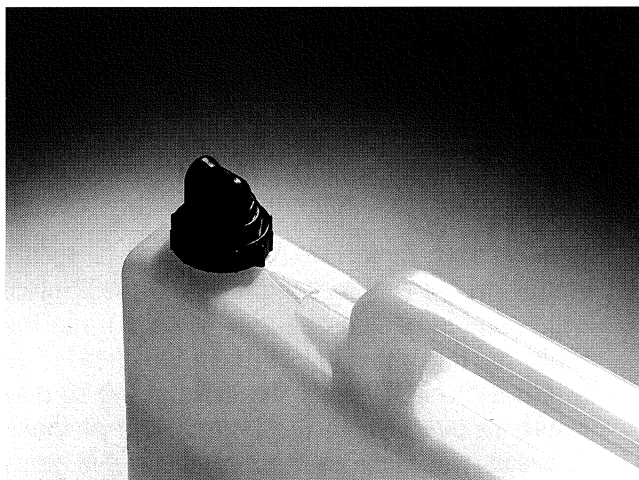

Figure 2-6
4. Label each bottle with the appropriate reagent and concentration that will be used at each station. (Later, these will be programmed into the software during the customization of the instrument, as instructed in Section 3.) Remove the cap at the opposite end of the bottle from the nozzle and fill each bottle to the proper graduation mark (to the appropriate "P" marking for Stations 1-10 and to the appropriate "C" marking for Stations 15-16) with the desired reagent. Be sure the bottle is placed on a level surface for filling. Replace the cap, ensuring that the long point on the cap aligns with the arrow on the bottle (Figure 2-6).